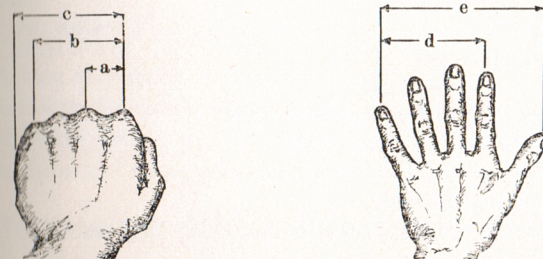

Fig 10.—Hand angles—useful measurements
57. Explain that, at long ranges, the angle in mils from a reference point to the target may be given. Gun numbers must be able to measure these distances by using hand angles. Each man must know the number of mils spanned by the different parts of his hand when the arm is outstretched (see Fig 10). Check the hand angles of each member of the squad, using the prepared scale.